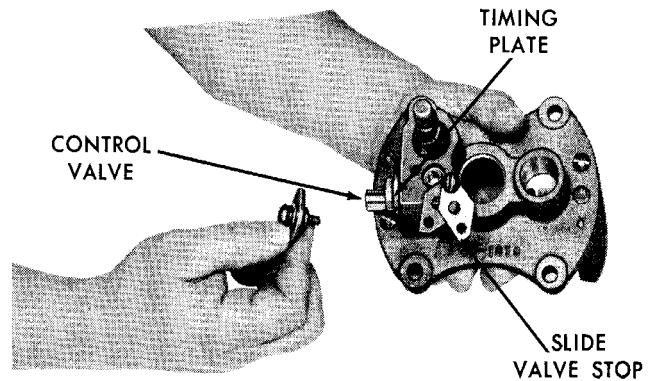

Figure 14. Disassembling the slide valve
4. Disassemble slide valve by removing the two screws and lock washers, slide valve stop, and fiber plate as illustrated in Figure 14. Tip up frame and remove slide valve.
5. Unscrew from frame, timing plate secured with capscrew or orifice plug and control valve assembly, identified in Figure 14.